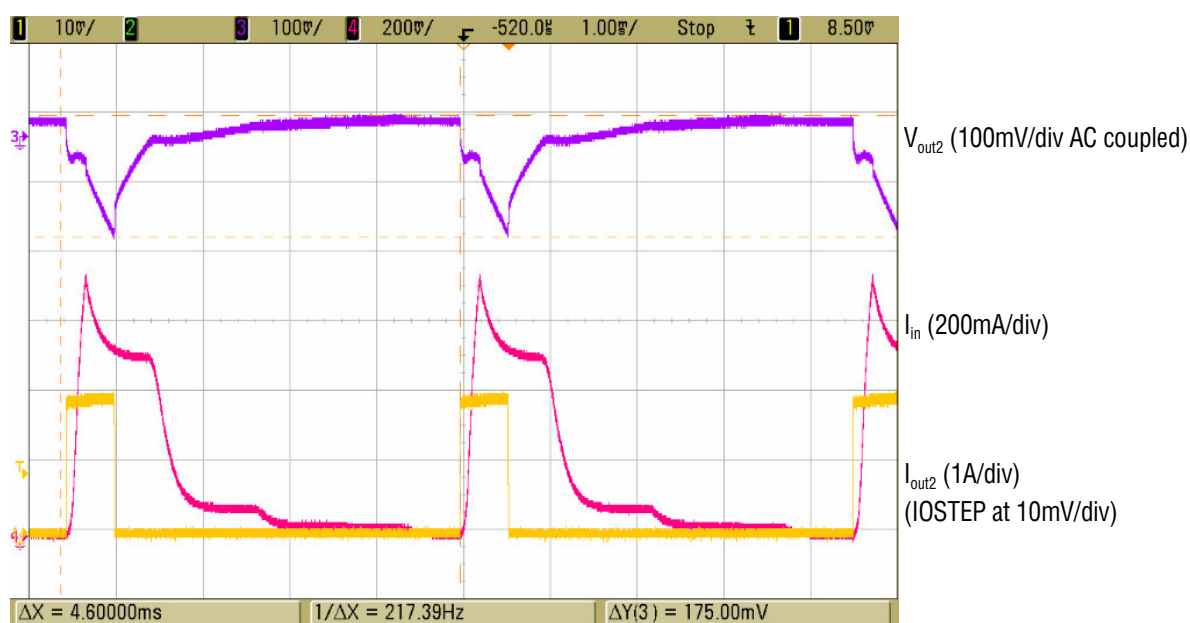

Figure 3. Pulse Load Waveforms for 2A pulsed load, 1/8th duty cycle, 4.6ms period
6. An example result showing V_{OUT2} , I_{IN} and a pulse load I_{OUT2} is given in Figure 3.